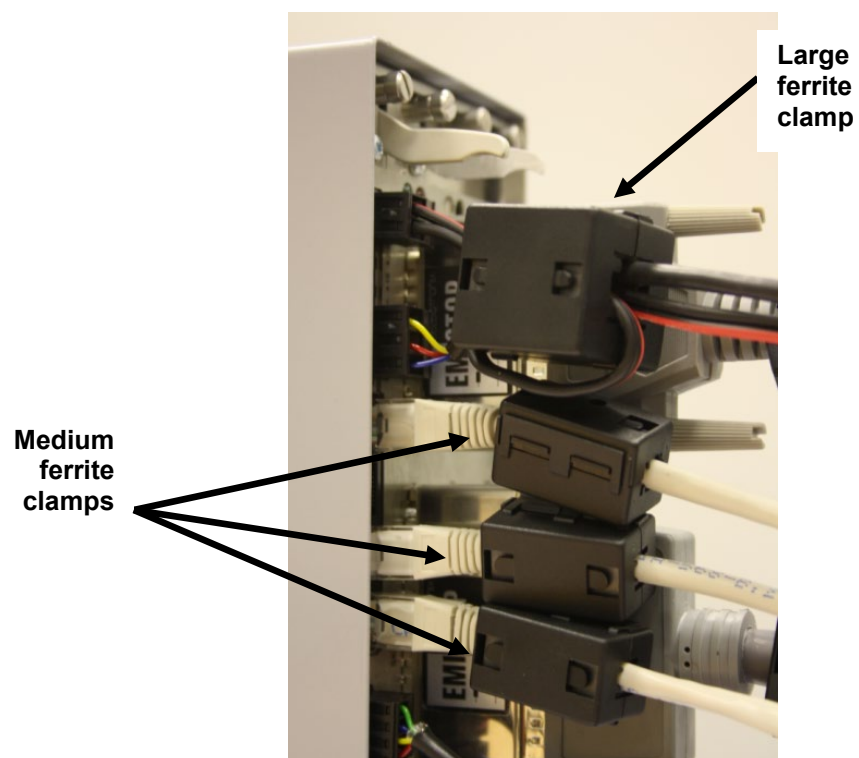

Figure 2-15. Clamps on CPU Module Power & COM Connections
7. Attach a large ferrite clamp onto the wiring to the CPU's power connections and one medium clamp to the COM3 and COM 4 connections (see Figure 2-15).